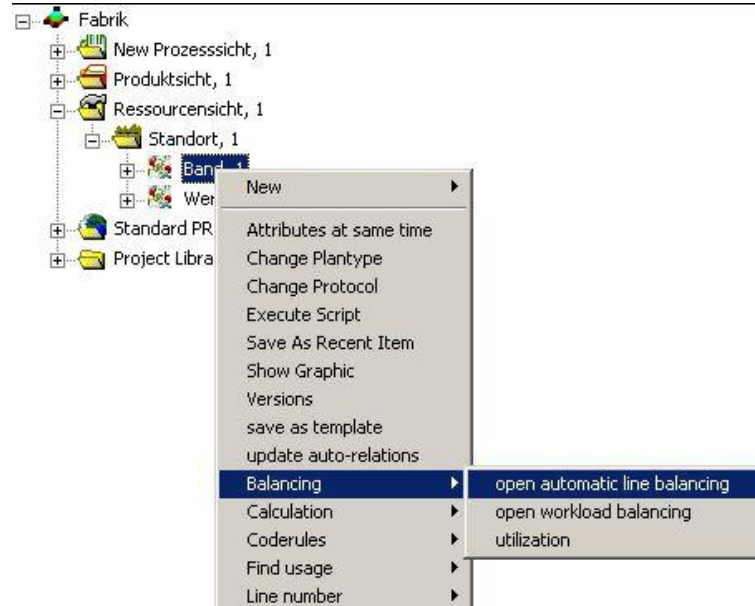

Figure 1: Opening Automatic Line Balancing
- 2) Press the right mouse button. Click **open Automatic Line Balancing** in the open popup menu. *Please refer to the Figure 1.*